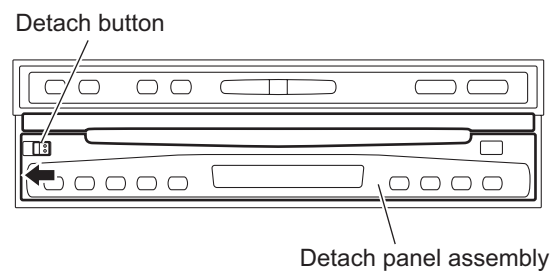

Fig.2
3.1.2 Removing the detach panel assembly (See Fig.2)